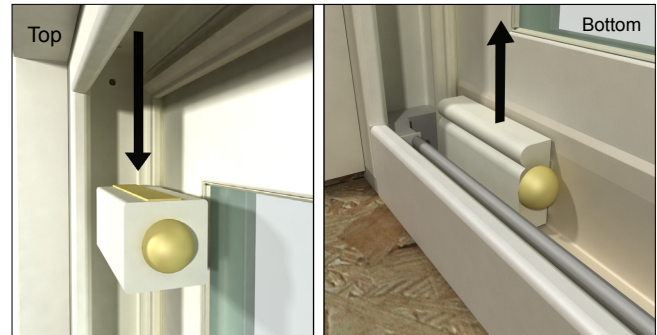

Figure 2
3. Remove both panel stops for the head jamb and sill. See figure 2.